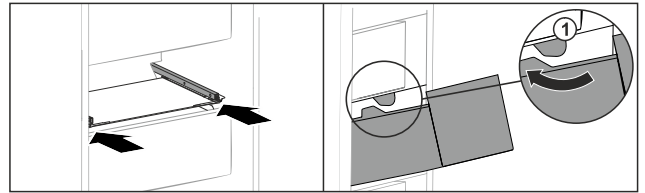

Fig. 95
- ▶ Guide drawer around the stoppers Fig. 95 (1).